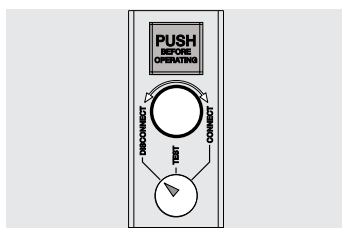

Figure 64
- circuit breaker in DISCONNECT position (see Figure 64).